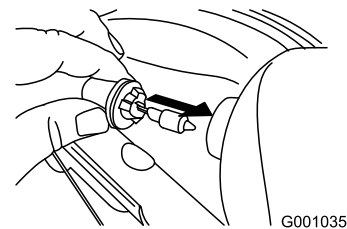

Figure 61
4. Insert a new bulb into the back of the headlight (Figure 61).